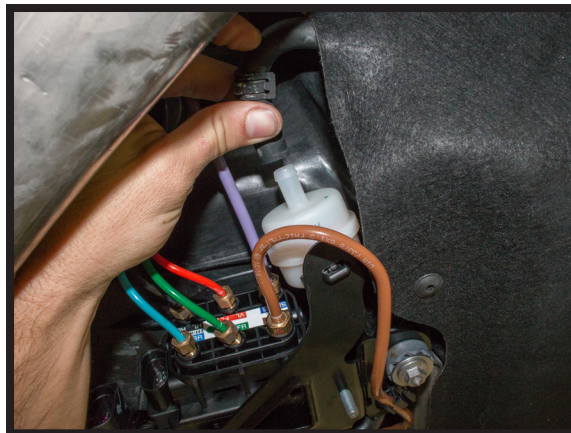

FIGURE 6
5. DISCONNECT THE RUBBER INTAKE HOSE. (FIGURE 6)